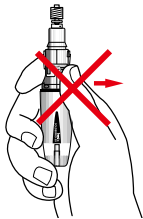

Fig.5
- Do not ignite torch when Tip Assembly is not screwed on. (Fig. 5)